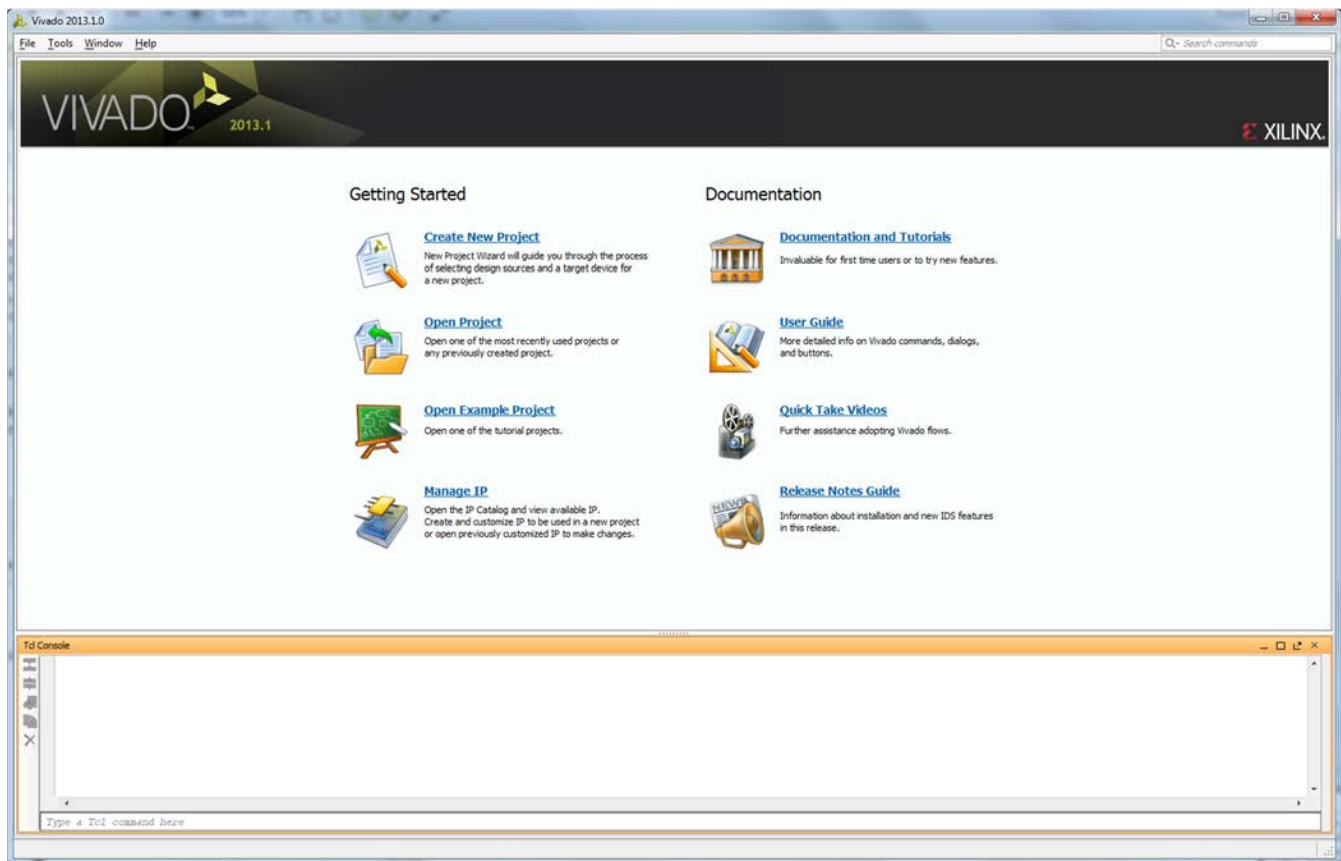
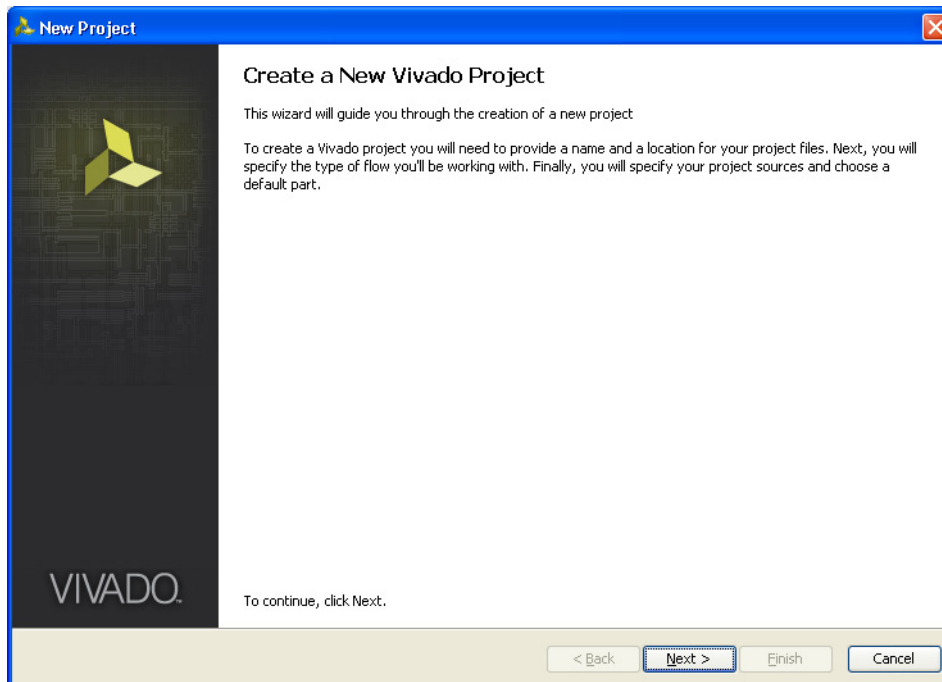

Figure 2-1: Vivado Tool
Figure 2-2: Create a New Vivado Tool Project
1. Invoke the Vivado IP (see Figure 2-1).
2. To create a new project, click the **Create New Project** option shown in Figure 2-1 to open the page as shown in Figure 2-2.